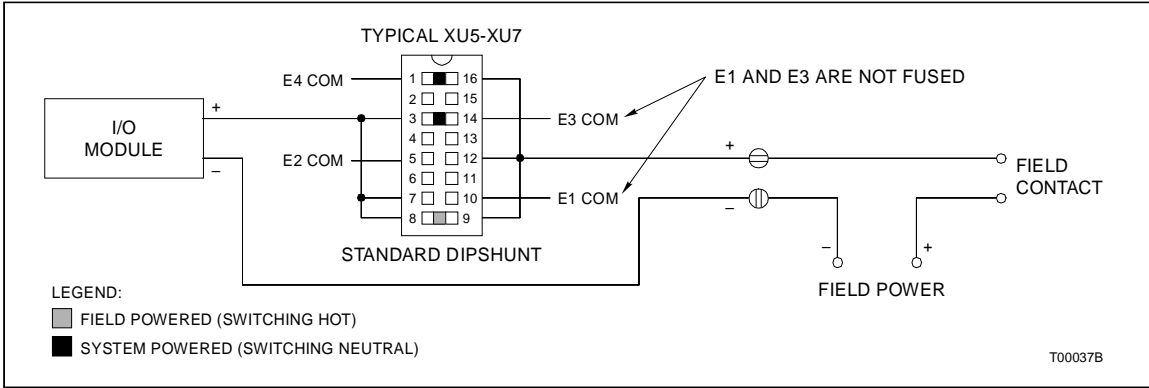

Figure A-2. Switching Hot vs. Switching Neutral
1. Using the field device to complete the path to ground is commonly referred to as **switching neutral**. Using the field device to complete the path to the I/O module is referred to as **switching hot**. If switching hot is the desired method, the field powered dipshunt configuration must be used. If system power is required, it should be wired as a field source. Refer to Figure A-2 for an example of switching hot and switching neutral.